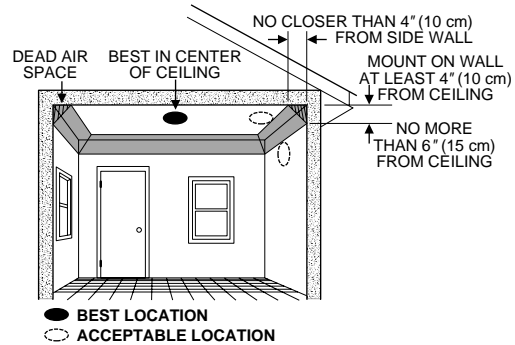

Figure 5. Smoke alarm mounting locations
- ❑ Install smoke alarms on the ceiling as close to the center of the room as possible. If this is not practical, install it on the ceiling no closer than 4 inches (10 cm) from any wall or corner (see figure 5).
- ❑ If ceiling mounting is not practical, install on an inside wall between 4 and 6 inches (10 and 15 cm) from the ceiling (see figure 5).